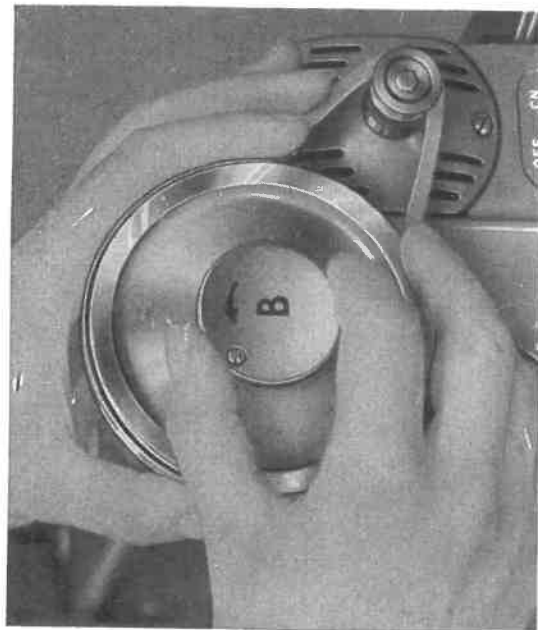

Fig. 7
- a) When using the bobbin winder, the balance wheel must be disconnected from the sewing mechanism. To do so, hold the balance wheel with the left hand and at the same time with the right hand turn the knurled knob "B" in the direction of the arrow (Fig. 7).